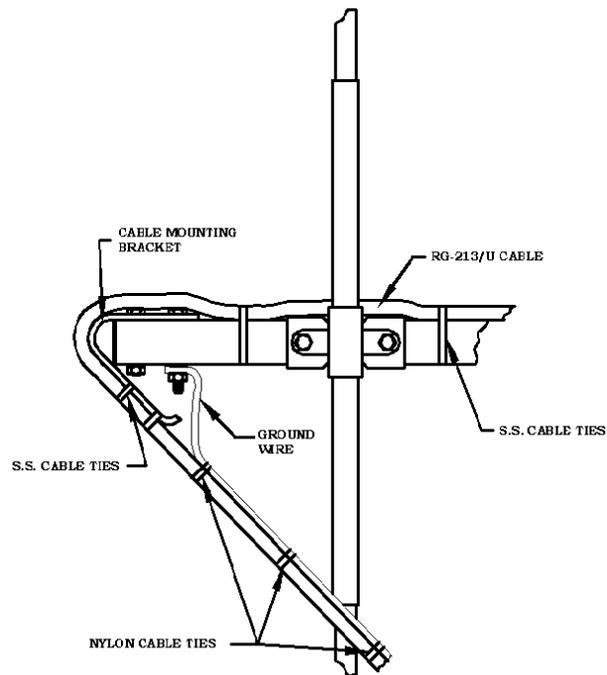

FIGURE 1
4. Lay the cable around the cable mounting bracket and use cable ties to attach it to base of the mast. See Figure 1.
- Install 6 Clamping Bolts and Hex Nuts to the antenna base per Fig.1.